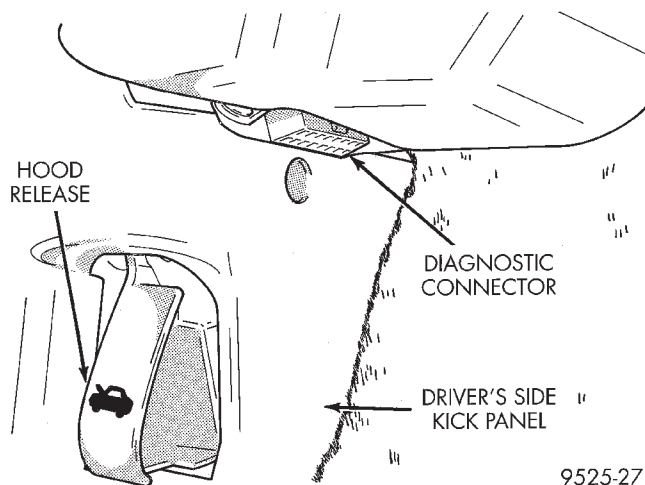

Fig. 10 ABS System Diagnostic Connector Location
(1) Assemble and install all brake system components on vehicle making sure all hydraulic fluid lines are installed and properly torqued.
(2) Connect the DRB scan tool to the diagnostics connector. The diagnostics connector is located under the lower instrument panel next to the left kick panel (Fig. 10).